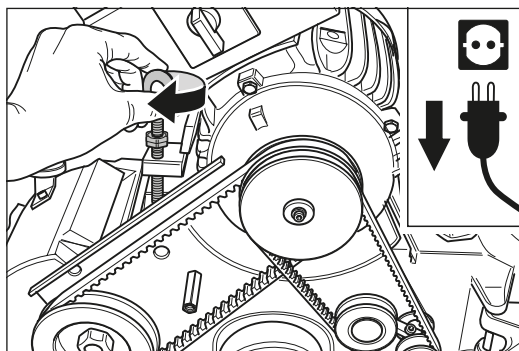

Fig. 65 Mount the V-belts and tension them by turning the eye bolt at the motor clockwise.
- 6 Mount the V-belts and tension them by turning the eye bolt at the motor clockwise (fig. 65).